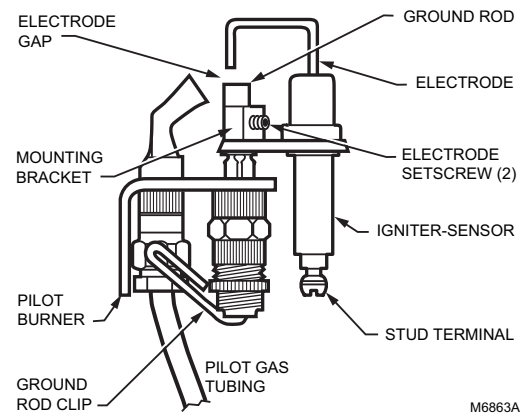

Fig. 9. Fasten igniter-sensor to ground rod.
- Align the ground rod so the clip hugs the pilot burner and keeps the ground rod from rotating. See Fig. 9.
2. Loosen the setscrews on the mounting bracket and slide the igniter-sensor mounting bracket over the top of the ground rod. See Fig. 9.
3. Tighten the setscrews on the mounting bracket using the hex wrench provided. See Fig. 9.